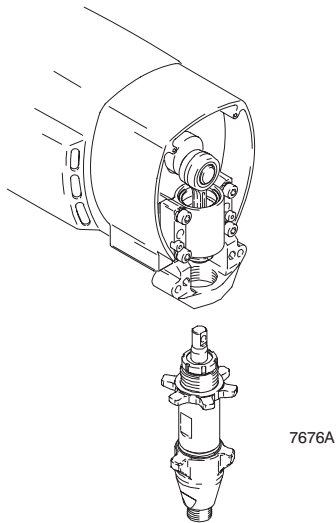

Fig. 24
1. Fig. 24. Pull piston rod out 1.5 in. Screw in pump until holes in bearing cross link and piston rod align.